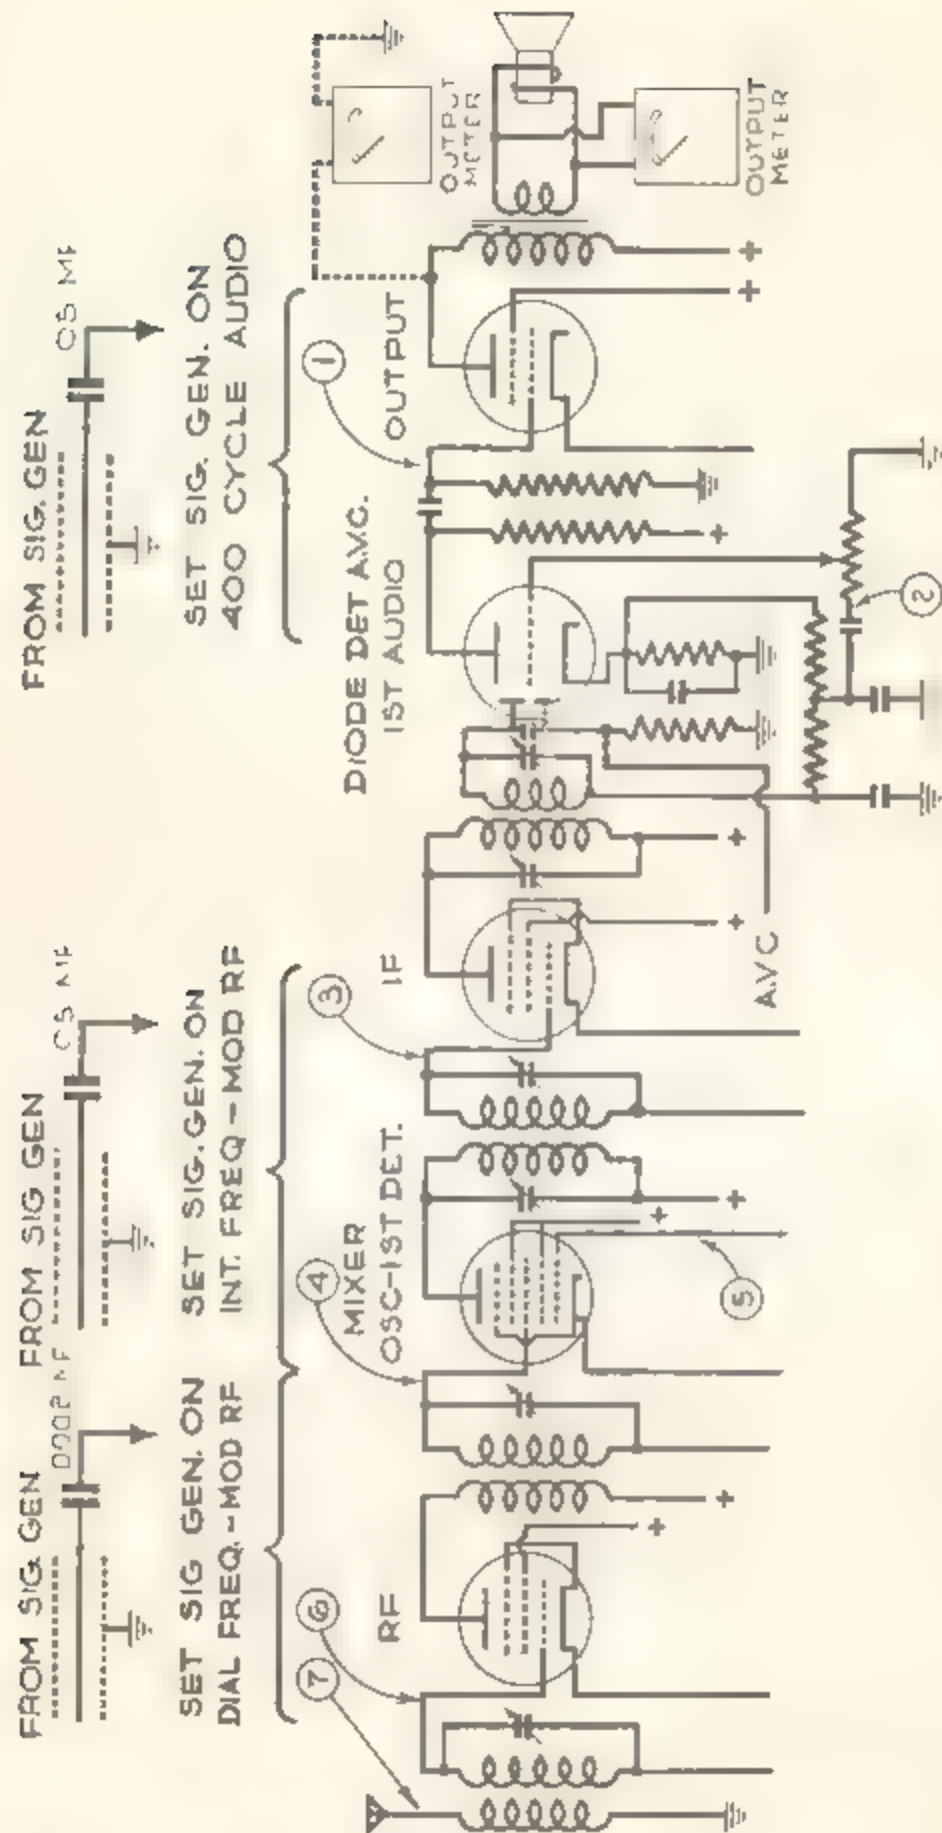

Figure 5 Simplified Circuit of a Superheterodyne Radio Receiver Showing Location of Test Points
An alternate method is to use the Model 340 with an output meter such as the Simpson Model 260 or a vacuum tube voltmeter such as the Model 266. In this case, the output meter is connected to the output of the radio receiver and the signal generator connected to the input of the output stage first. It is then moved along stage by stage toward the antenna section and a fault in any stage will be indicated by the failure of the signal to come through. This method will be described in the following paragraphs as applied to a superheterodyne receiver consisting of one RF stage, mixer, one IF stage, diode detector and first audio, and output stage, the simplified schematic of which is shown in Figure 5. Before starting, test all tubes and make the usual voltage measurements.
2. Connect the output meter to the output of the radio receiver as shown in Figure 5. It can be connected across the voice coil as shown by the solid lines and set on the 2.5 volt AC range or connected between the output plate and ground as shown by the dotted lines and set on a higher range.
3. Connect the output lead from the signal generator to the grid of the output stage through a condenser of approximately .05 MF capacity at point (1) in Figure 5.
Change the output lead from the signal generator from point (1) in Figure 5 to point (2), the input to the volume control. Make connection through a .05 MF condenser and turn the volume control all the way up. If this stage is functioning, a signal will be heard in the speaker and a reading obtained on the output meter. For the same output reading as obtained in step (a), a lower output setting of the signal generator will be required. This is due to the gain of the triode section of the 2nd detector which in a tube such as the 6SQ7 may be from 20 to 50 times. This is additional proof that the stage is operating properly.
Move the output connection of the Model 340 to the input grid of the first detector, point (4) in Figure 5. Leave the signal generator tuned to the intermediate frequency and connect it through the .05 MF condenser. A signal from this point shows that the first detector is functioning but does not eliminate the oscillator as the cause of trouble. The receiver dial should be tuned to the low frequency end of the band.
If no signal is obtained, the oscillator may be checked further by setting the receiver dial to a local broadcast station and connecting the signal generator to the oscillator plate, point (5) in Figure 5, tuning it to a frequency higher than that of the broadcast station by the amount of the intermediate frequency. For example, if the broadcast station is at 1000 KC,
To check the RF stage, connect the output of the Model 340, tuned to the frequency of the radio dial and set on "MOD. R.F.", to the input grid of the RF tube, point (6) in Figure 5, through a .0002 MF condenser. If this stage is operating, a signal will be heard and a reading observed on the output meter. The gain of the stage will be indicated by lower settings of the Model 340 output controls needed to produce the same reading on the output meter as obtained from point (4).
The last step is to check the antenna coil. Move the Model 340 output connection from point (6) to point (7) in Figure 5, leaving all settings the same. Make connection through a .0002 MF condenser or a dummy antenna as shown in figure 2 c. Little, if any, gain will be observed at this point. Automobile receivers, however, will show more gain.
2. Connect the output lead of the signal generator to the grid of the last IF amplifier tube through a .05 MF condenser as shown at point (3) in Figure 5.
1. Leave the Model 340 on "MOD. R.F." and tuned to the intermediate frequency and connect the output lead through a .05 MF condenser to the input grid of the first detector, point (4) in Figure 5.
3. Make a record of the settings. These may be X1 for the multiplier and 100 for the output control. The gain between points (4) and (3) can therefore be expressed as